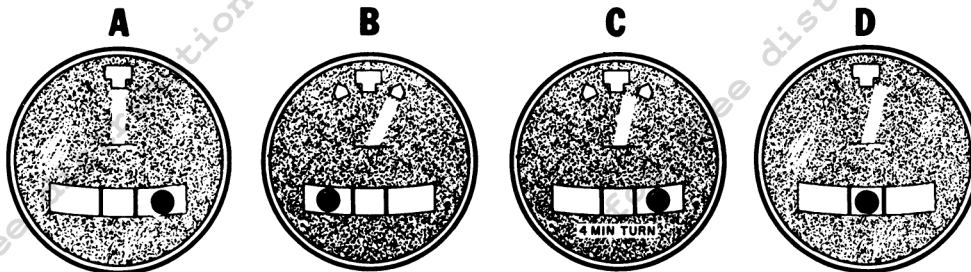

Figure 1
Misinterpretation of the turn and slip indicator is caused by two major factors: (1) The marking and legend on the face of the instrument, and (2) misinterpretation of the "ball" (or slip/skid indicator). In general appearance, turn and slip instruments can be divided into two types: one having a center index only (see illustrations A and D of Figure 1), and the other having a center index and a two-needle-width deflection mark (doghouse) on either side (see illustrations B and C). A one-needle-width deflection on instruments having only the center index indicates a standard rate turn (3° per second). Instruments with doghouses may have different legends, e.g. "2-Min. Turn," "4-Min. Turn," "Turn and Bank;" regardless of the legend, if the instruments are properly calibrated, a one-needle-width deflection indicates a turn of 1.5° per second. A standard rate turn (3° per second) is indicated when the needle is aligned with the doghouse.
Assuming that the instruments in Figure 1 are properly calibrated and the airplane is properly trimmed for the speed and power setting, WHAT IS THE "RATE OF TURN" INDICATED BY EACH OF THE ILLUSTRATIONS, AND WHAT DOES THE BALL INDICATE?